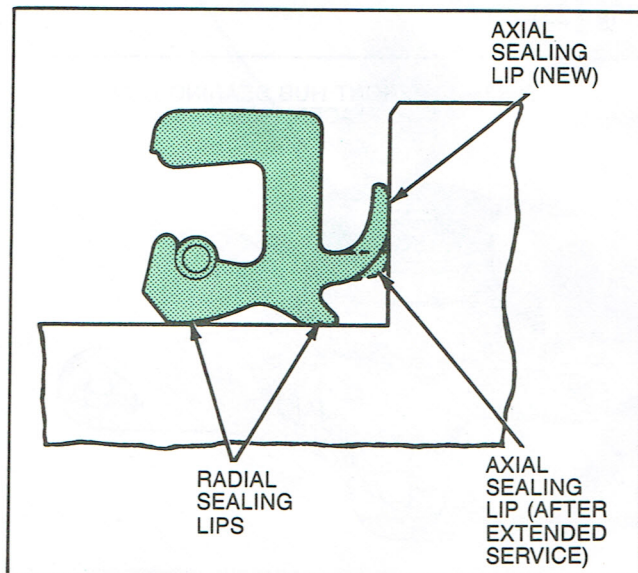

Figure 27, Three Lip Grease Seal (1131)
**NOTE:** A special three lip grease seal is used on the Scorpio (Fig. 27). Two of these sealing lips seat directly against the spindle shaft to form radial seals. The third seal seats directly on the flange portion of the shaft and forms an axial seal around the diameter of the flange. The axial sealing lip is oversized, allowing a large amount of wear before seal effectiveness is reduced. Prior to installing new grease seals, always apply a small amount of grease between the sealing lips to act as a lubricant reservoir. This will prevent early seal lip wear.